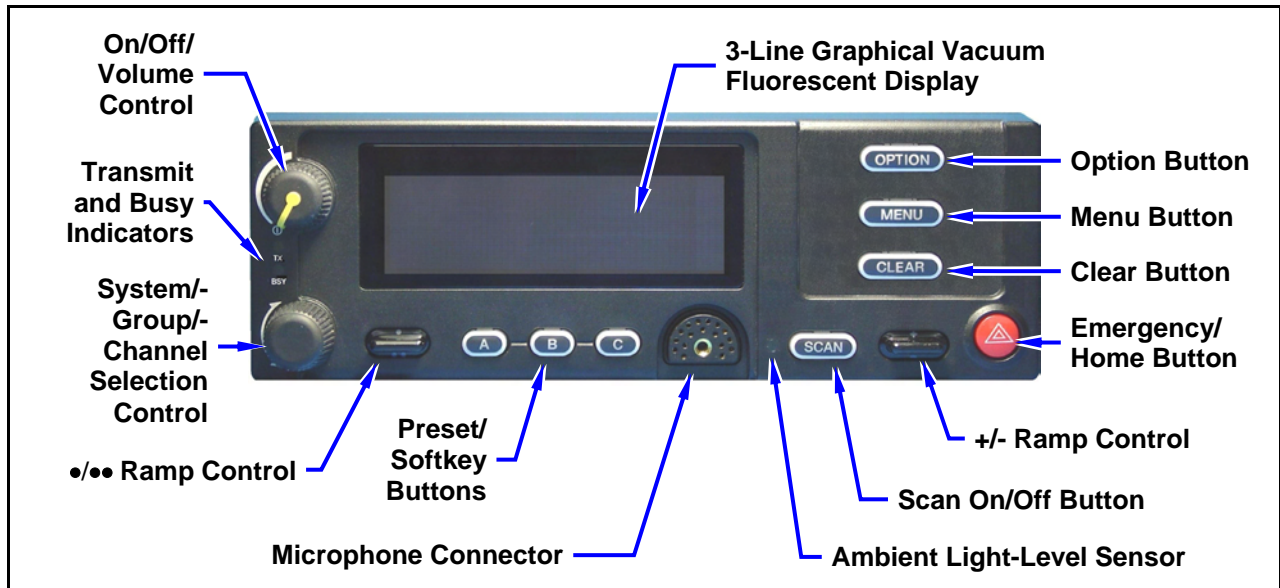
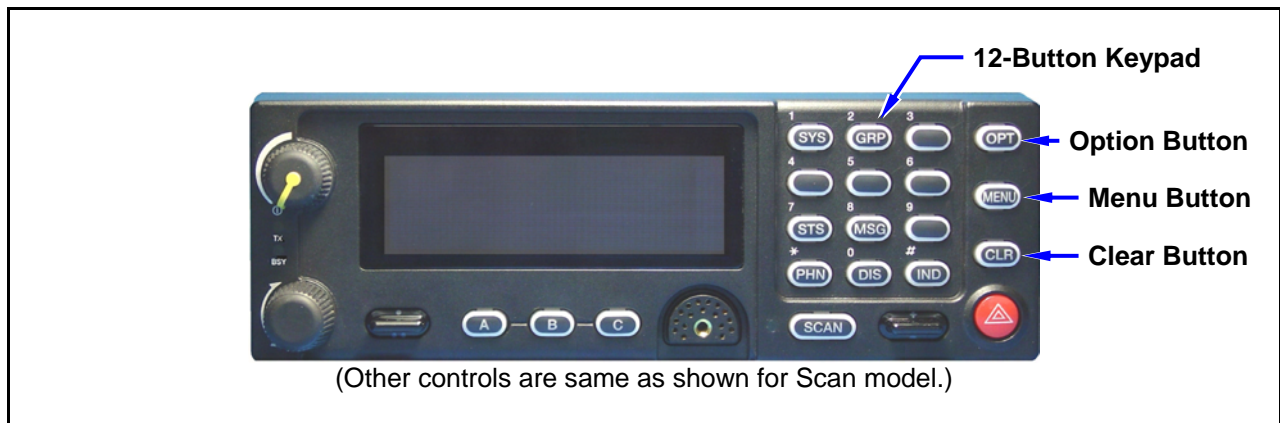

Figure 8-1: CH-721 Scan Model Control Head Front Panel
Figure 8-2: CH-721 System Model Control Head Front Panel
The M7300 mobile radio must be connected to a control head to provide the operator-to-radio interface. Two different control heads are available — the CH-721 Scan model and the CH-721 System model. See Figure 8-1 and Figure 8-2 respectively. The CH-721 Scan model control head features three (3) large menu selection buttons. The System model control head has a 12-button keypad to allow advanced operations without the need of a DTMF-capable microphone.